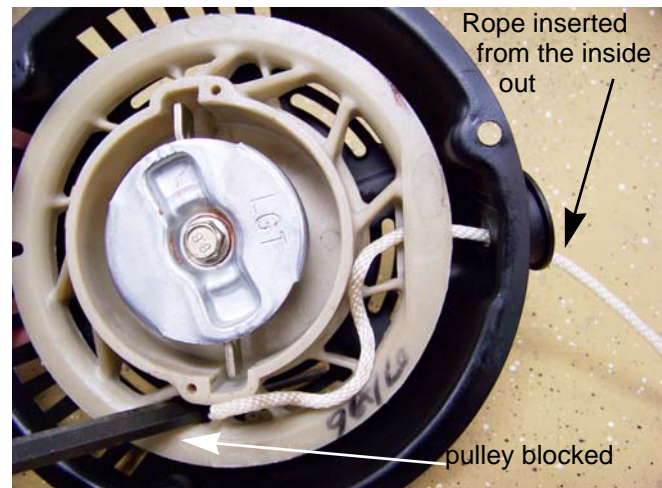

Figure 6.4
5. The rope may be easily installed from the outside-in. Pull the rope tight to seat the knot firmly in the recess in the back of the pulley. See Figure 6.4.
NOTE: It may be necessary to wind the pulley clockwise to line up the hole in the pulley to the hole in the starter housing. If so, use a punch or screwdriver to block the pulley, preventing it from rewinding. See Figure 6.4.